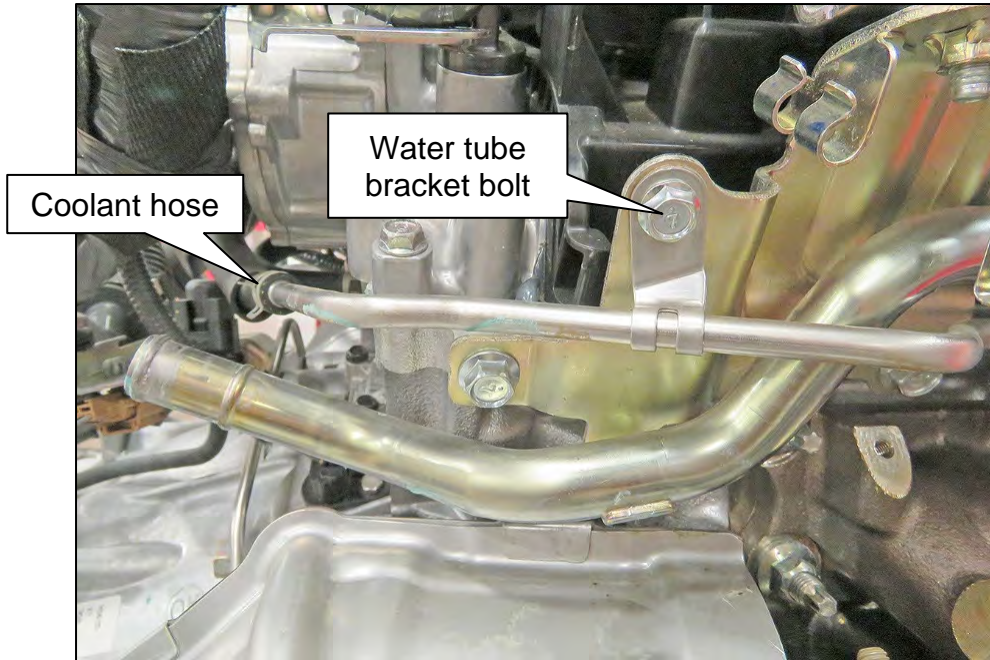

Figure 50
73. Release the spring clamp and disconnect the associated coolant hose shown in Figure 50.
74. Remove the water tube bracket bolt (Figure 50).